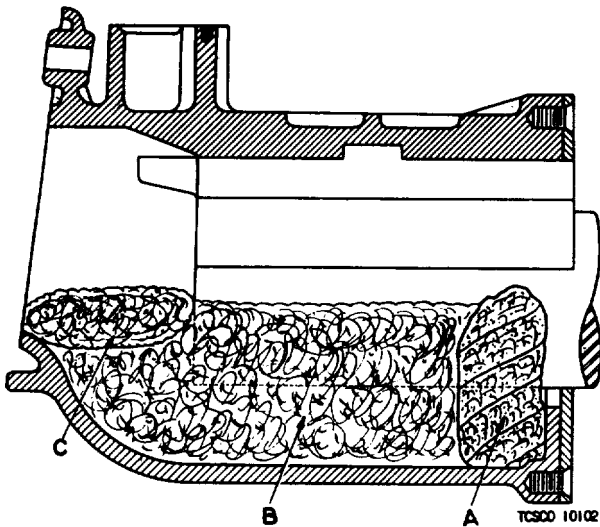

Figure 7. Method of packing journal boxes.
c. Pack a roll of drained waste, marked A on figure 7, tightly half-way around the journal at the back end and bottom of the box as shown. Place packing marked B in position with moderate pressure against the journal but sufficient to make good contact, applying the waste somewhat looser at the sides of the box to prevent wiping effect. The packing should not extend higher than the center of the journal.
d. After packing is completed, pour free oil over the waste along the sides of the box near the center. Place a wad of semidry waste C, figure 7, between the end of the journal and front end of the box as shown, the purpose of which is to serve as a dirt collector and can easily be renewed as required.